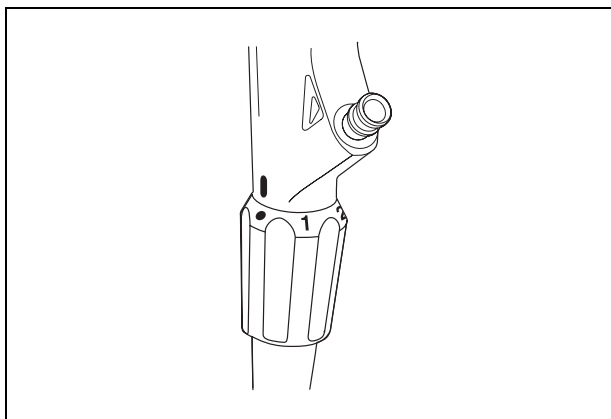

Figure 3.4
1. Confirm that the index markings (“●”, “1”, “2”, “3”) on the flexibility adjustment ring and the “|” mark at the bottom of the grip section are clearly visible (see Figure 3.4).